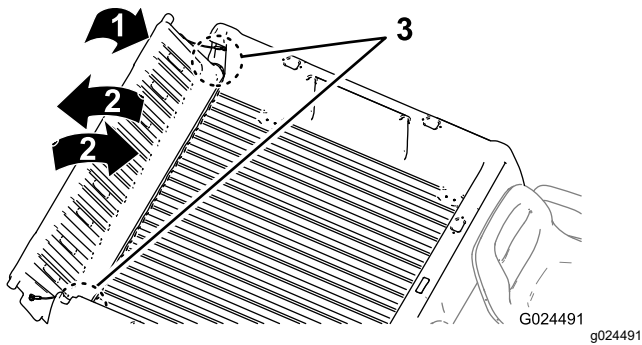

Figure 21
2. Rotate the tailgate to approximately the 45° position (Figure 21).
3. Use a short, shaking motion to rotate the tailgate back and forth several times (Figure 21).